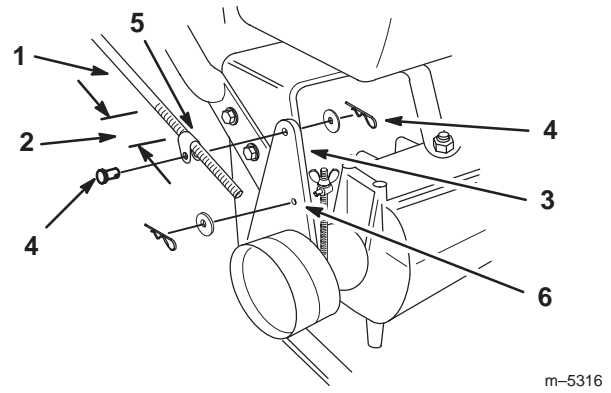

Figure 8
1. Make sure the rod fittings are equal distance onto each control rod. The rod fittings should be approximately 3-1/2 inch (89 mm) from the start of the threads (Fig. 8).
2. Slide clevis pins through rod fittings and mounting holes in idler brackets (from outside) (Fig. 8). Secure with washers and hairpin cottes (Fig. 8).